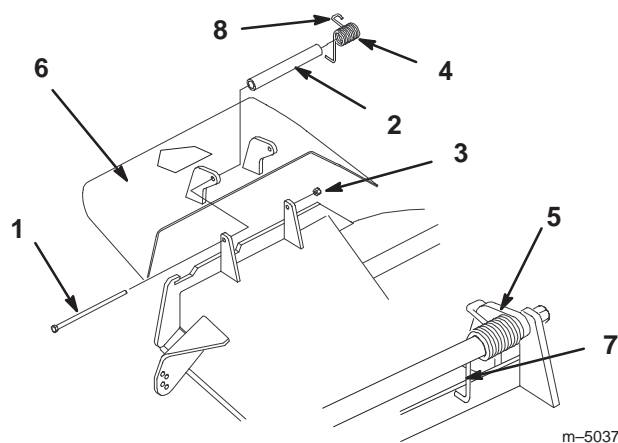

Figure 71
1. Remove the locknut, bolt, spring and spacer holding the deflector to the pivot brackets (Fig. 71). Remove damaged or worn grass deflector.
Note: Make sure the L end of spring is installed behind deck edge before installing the bolt as shown in figure 71.
3. Install bolt and nut. Place J hook end of spring around grass deflector (Fig. 71).